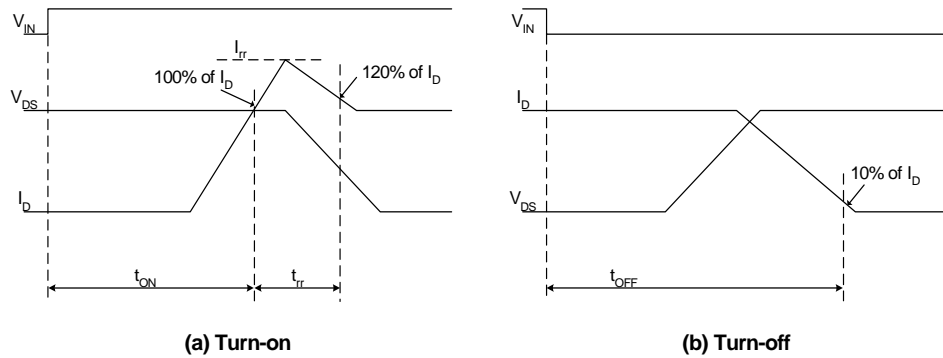
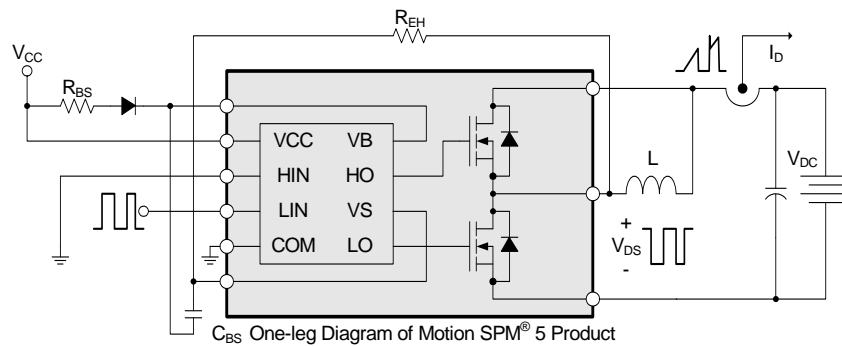

Figure 4. Switching Time Definitions
Figure 5. Switching and RBSOA (Single-pulse) Test Circuit (Low-side)
- For the measurement point of case temperature T_C , please refer to Figure 4.
- t_{ON} and t_{OFF} include the propagation delay of the internal drive IC. Listed values are measured at the laboratory test condition, and they can be different according to the field applications due to the effect of different printed circuit boards and wirings. Please see Figure 4 for the switching time definition with the switching test circuit of Figure 5.
- The peak current and voltage of each MOSFET during the switching operation should be included in the Safe Operating Area (SOA). Please see Figure 5 for the RBSOA test circuit that is same as the switching test circuit.